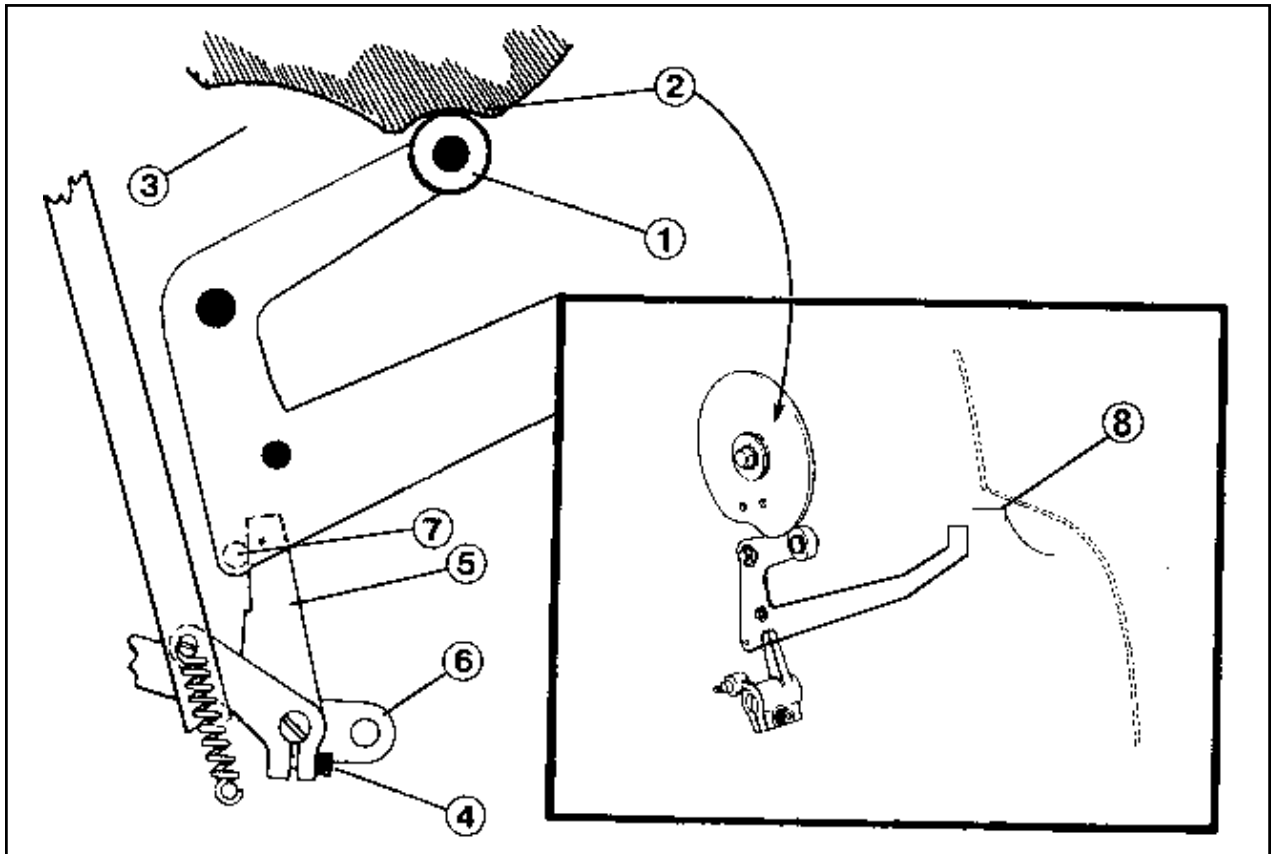

Figure 28 - Counter Operating Lever
1. Turn handwheel until truck (1) is in the pocket (2) of cam (3) (see Figure 28).
2. Assure that the impression cylinder is unlatched and the lever screw (4) is loose.
3. Loosen knob on cylinder adjusting tool, seat counter operating lever (5) against support arm (6) and pin (7).
4. Tighten screw (4).